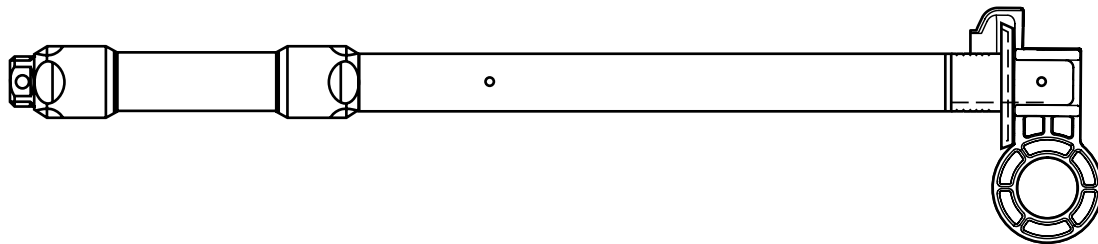

Figure 9. Inner holder with fuse link, cartridge and end plug assembly.
- Spread tulip tip of fuse link and place end plug (c) on the end of the fuse cartridge by tightening to 50 to 70 in-lbs of torque. Remove end plug and ensure the leaves of tulip tip have spread uniformly. Failure to do so can cause malfunction. Replace end plug applying 50 to 70 in-lbs torque to both connections. (Refer to Figure 9.)